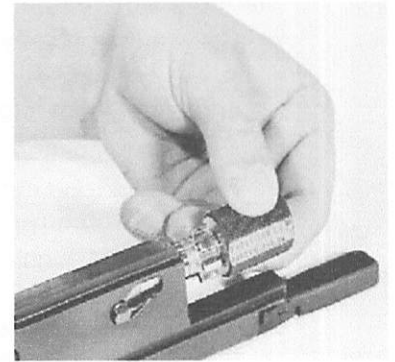

Fig. 42 Check of firing pin protrusion
- ⇒ Place firing pin protrusion gauge, with its surface to the left (Ejector) onto tip of firing pin (Fig. 42) and push downwards.